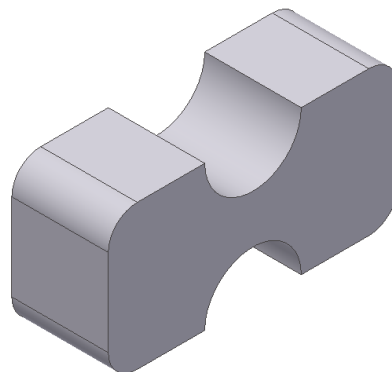

Figure 18-49 Rotated view of filleted model
4. Choose **OK**; the fillet is added to the model and the model looks similar to the one shown in Figure 18-49.